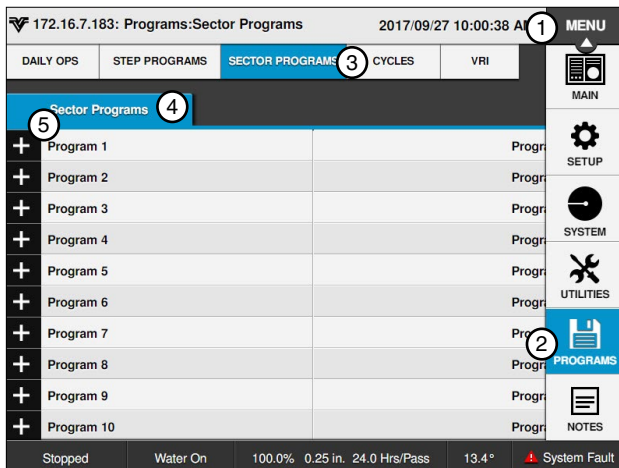

Figure 146-2 1. Menu 2. Programs 3. Sector Programs 4. Sector Programs 5. Add Program
1. Push **Menu**, **Programs**, and **Sector Programs** to view the Sector Programs screen. Refer to Figure 146-2.